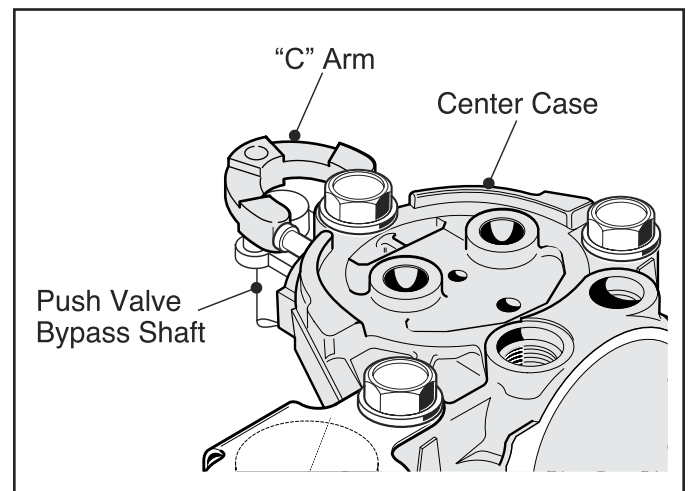

Fig. 8, "C" Arm Removal
1. Disconnect "C" Arm from the Bypass Shaft by applying slight sideward pressure to the spring loaded Push Pins. This will keep them from springing out. With the Push Pins secure, lift the "C" Arm off the Push Valve Bypass Shaft. (Fig. 8, 9)